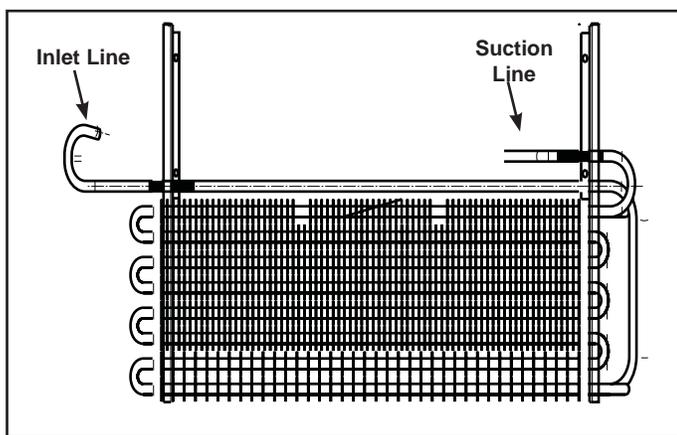

Figure 7-11
5. Cut suction line off flush with liner (See Figure 7-11